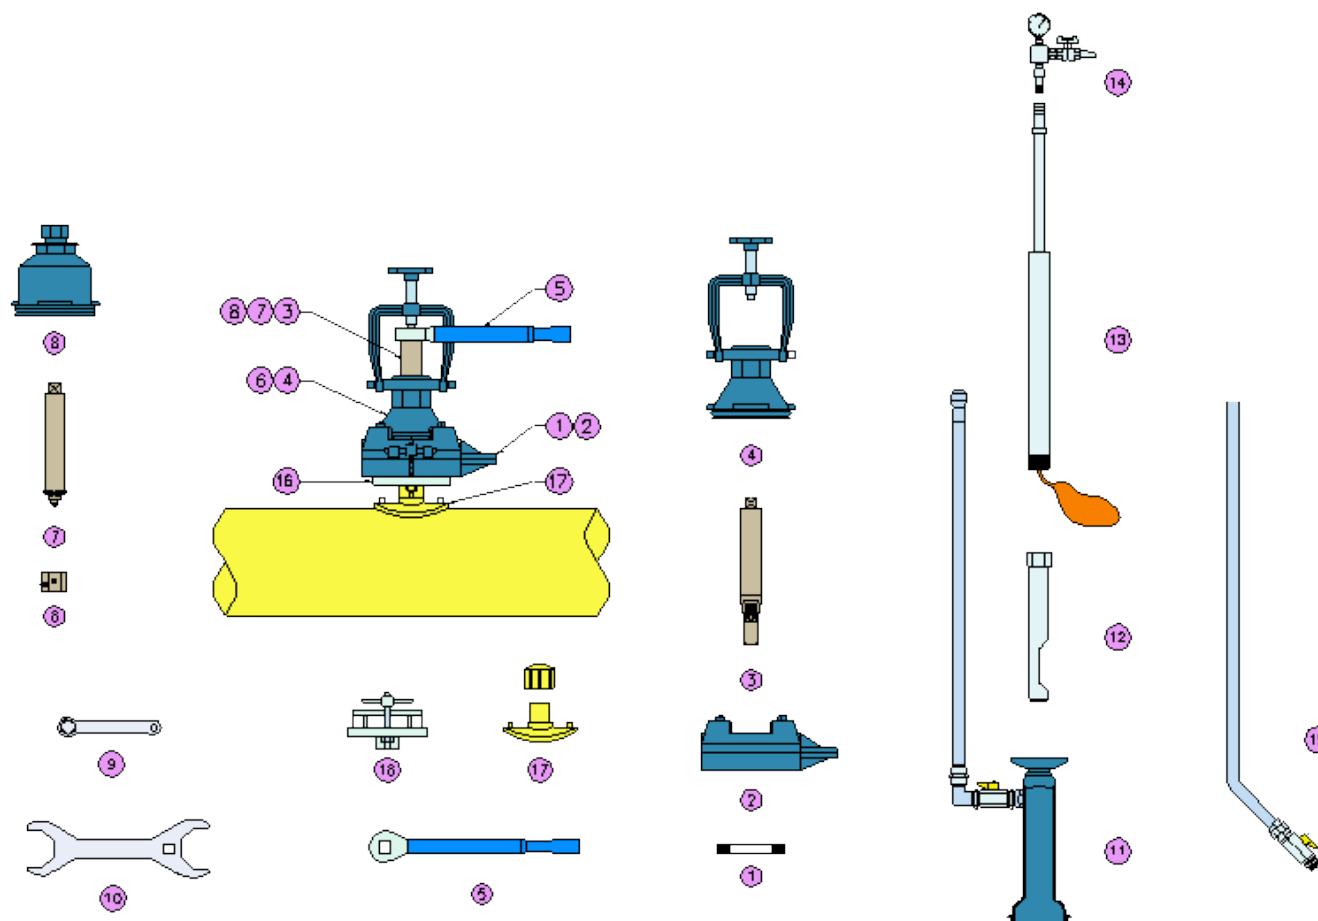

Figure 82- PE Semi-supported Bag Tube Equipment
1. PE Bag tube equipment is shown in Figure 82.